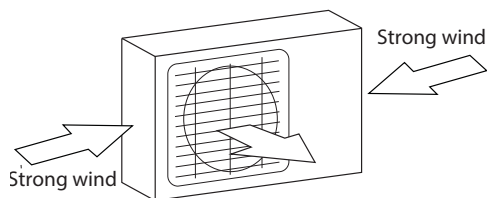

Fig. 6.1
- ☑ If the location is exposed to strong winds (for example: near a seaside), the unit must be placed against the wall to shelter it from the wind. If necessary, use an windbreaks (or similar) (See Fig. 6.1 & 6.2)